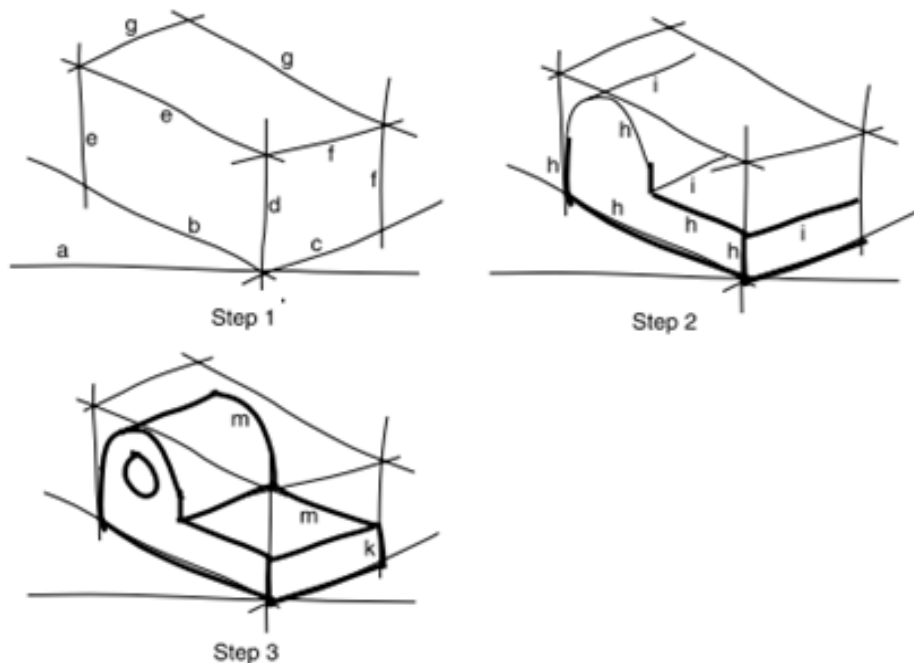

Fig. 3.34: Making and isometric sketch (Teachers Manual)
- Sketch the outline of the front face in its “block” and the other faces follow. Work parallel to the isometric axes as shown in Fig. 3.34.